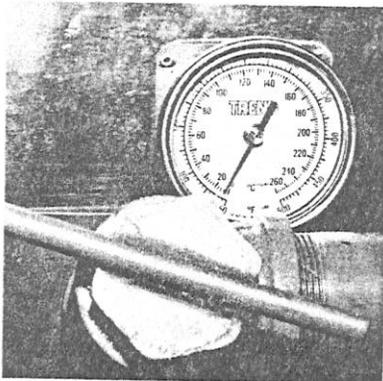
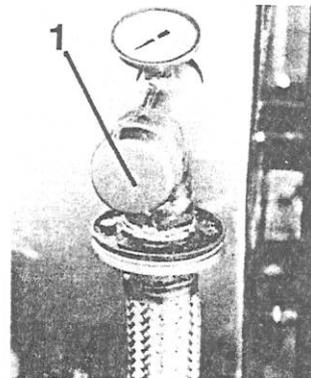
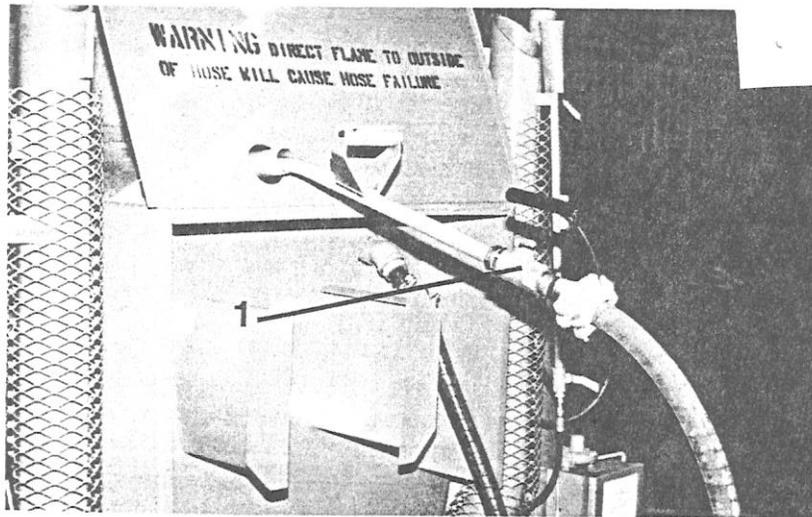

FIGURE 13
FIGURE 13A
FIGURE 14
- e. When sealant reaches application temperature (refer to sealant manufacturer's recommendation) pumping through applicator nozzle may begin. Thermometer located on top of material tank indicates material temperature. See Figure 13. Thermometer located in 2" line also indicates material temperature but only when material is flowing through lines. Figure 13A. Remove hose (2) from heating chamber and place hand applicator in tank rear opening with hand applicator valve (1) in "on" position. See Figure 14.
- f. Open applicator valve (1) to allow sealant to flow through hand applicator, see Figure 14.
1. Connect hose from the 2" line (1) to the sealant supply. All valves should be closed. Figure 13A.